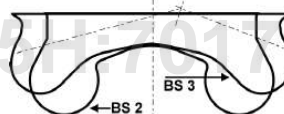

Fig. 3
**Alfin Pistons** - made of special grade aluminium alloy with cast iron insert to form the first compression ring seat. The combustion chamber design is shallow type for better combustion efficiency and reduction in soot emissions. **Fig. 3**